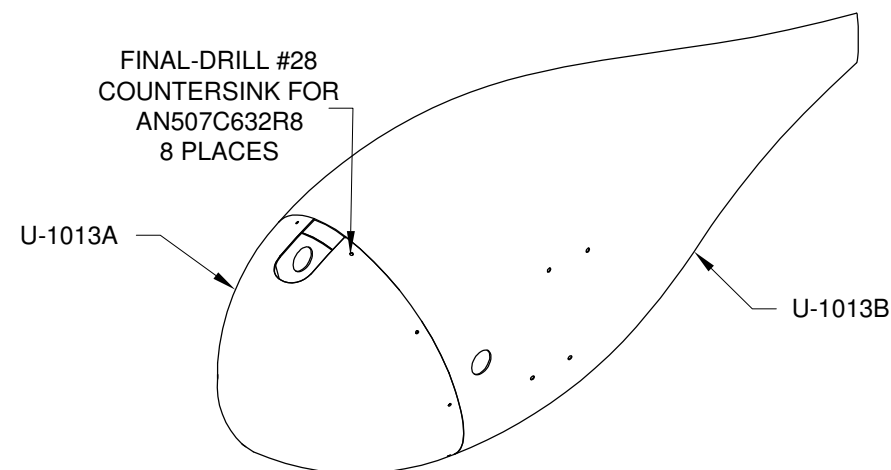

FIGURE 1: FINAL DRILLING THE FAIRING AND COUNTERSINKING
Step 1: Cleco the U-1013A Wheel Fairing Front and the U-1013B Wheel Fairing Rear together as shown in Figure 1. Refer to the callouts in Figures 1 & 2 and to the main wheel fairing instructions on Page 48-7, Steps 3 & 4 for the proper sequences.